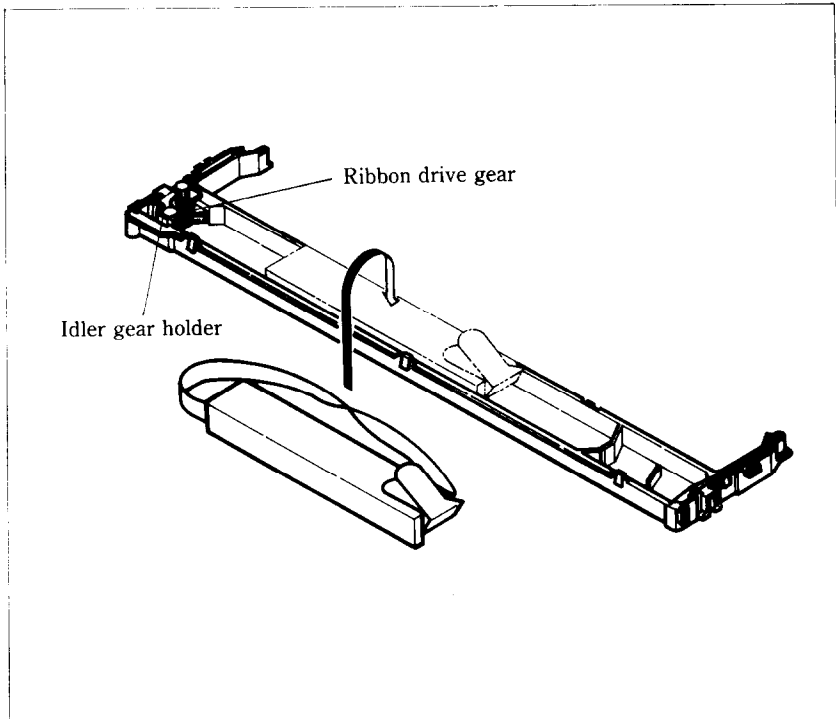

Figure 10-2. Replace the ribbon sub-cassette.
4. Press hard against the end of the idler gear holder to make a space between the holder and the ribbon drive gear, and remove the old ribbon and holder. See Figure 10-2.
6. Take the new ribbon and holder out of the wrapper, remove the adhesive tape on the joint, and place the ribbon holder into the cassette as shown in Figure 10-2.